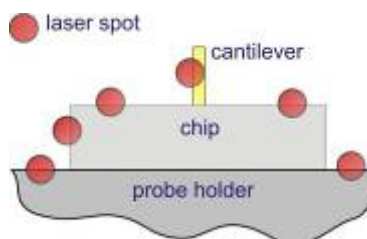

Fig. 2-43
- b. **"Distorted"** laser image on paper. This means that the laser beam hits the edge of any construction element or the cantilever. Note that image shape can be different (see examples in Fig. 2-43);